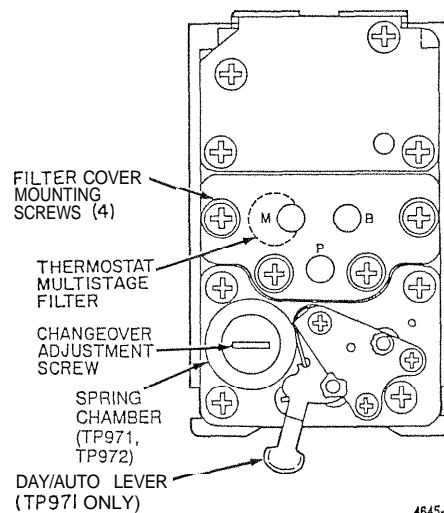

Fig. 12. TP970 Series Thermostat—Back View.
On some systems the lower main air pressure is 14 or 15 psi (97 or 103 kPa). On these systems turn the changeover adjustment screw (Fig. 12) one-half turn clockwise for each 1 psi (7 kPa) over 13 psi (90 kPa).
1. Remove the changeover adjustment screw (Fig. 12).